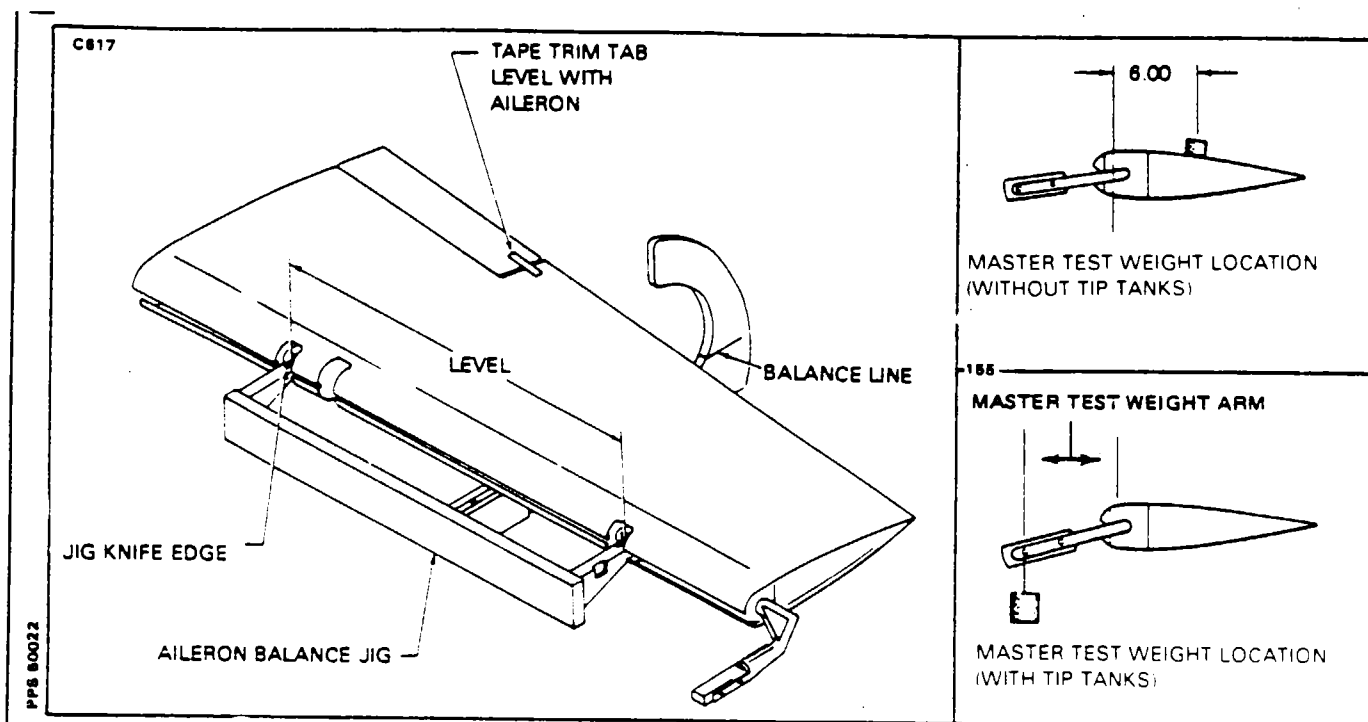

Figure 57-5. Aileron Balancing
AILERON BALANCING PROCEDURE. (Refer to Figure 57-5 and Chart 5701.)
2. Place the aileron on a balancing jig as illustrated in Figure 57-5. Establish a horizontal reference mark which aligns with the trailing edge of the aileron when it is held in a horizontal level position (chord line level).